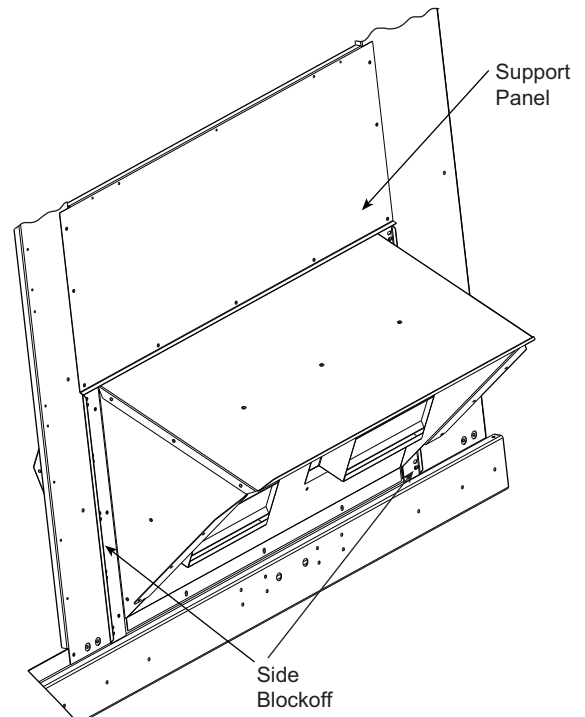

Fig. 2 — Support Panel Installation
- Install top support panel provided. Use 3 screws on each side and 5 screws across top previously removed from existing upper panel. If screws were removed in Step 3, install 3 screws on economizer sides and replace economizer filter. See Fig. 2 for support panel installation.